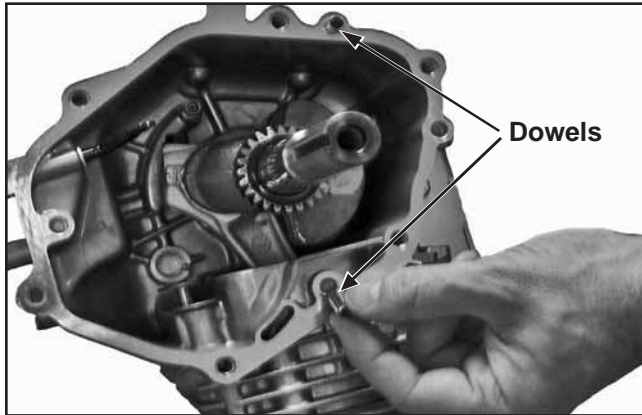

Figure 10-11. Installing Crankcase Dowels.
2. Install the two crankcase dowels into the crankcase. See Figure 10-11.